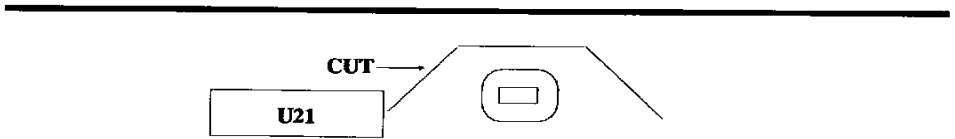

Figure 2
3. \_\_\_\_\_ Cut the other end of this trace near U21 (top left corner of the PC board). (See Figure 2)